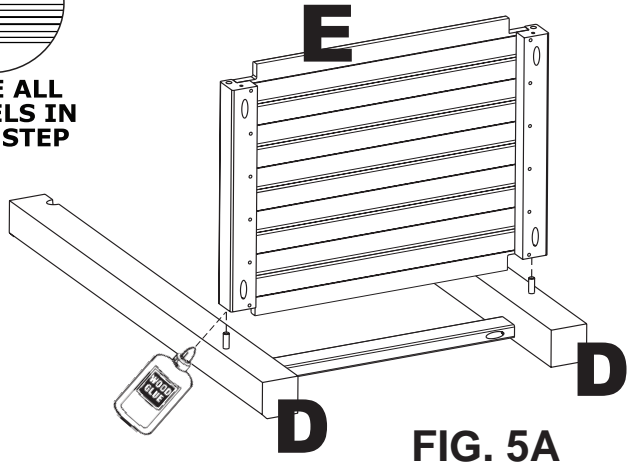

FIG. 5A
5. Loosely attach Rack Assembly (E) onto one of the leg assemblies without using screws at this time. See FIGURE 5A. Rotate pieces together 90 degrees clockwise and loosely attach the other leg assembly. See FIGURE 5B. Screws will be used to attach the pieces once they are fitted to the table top assembly (A).